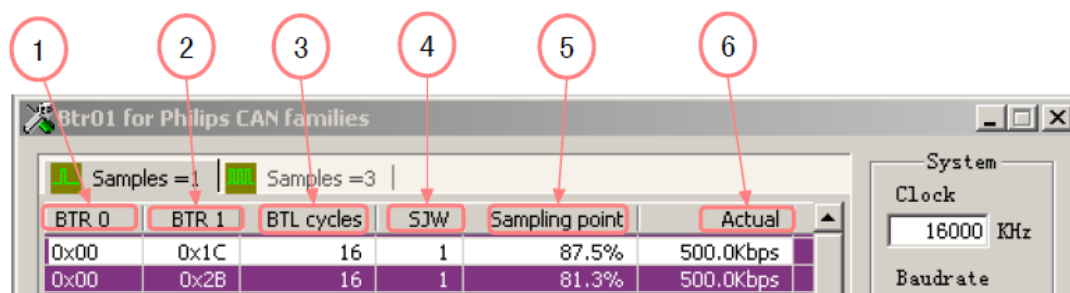

Figure 2 Illustration of table columns
- The result listed in the table consists of the six parameters shown in Figure 2, which are represented as follows.